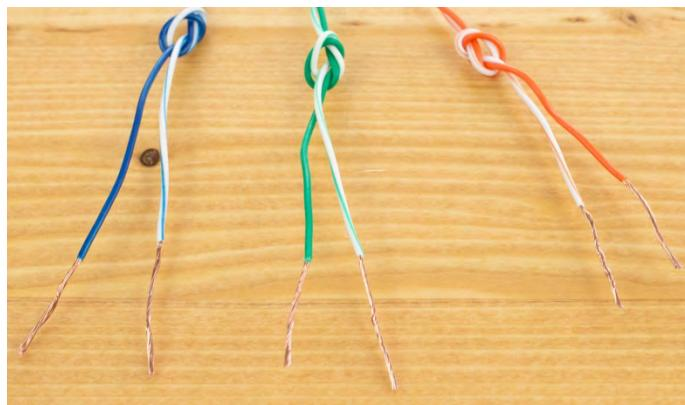

Figure 13
- Repeat for all colors of the solid and white striped wires. (Figure 13)